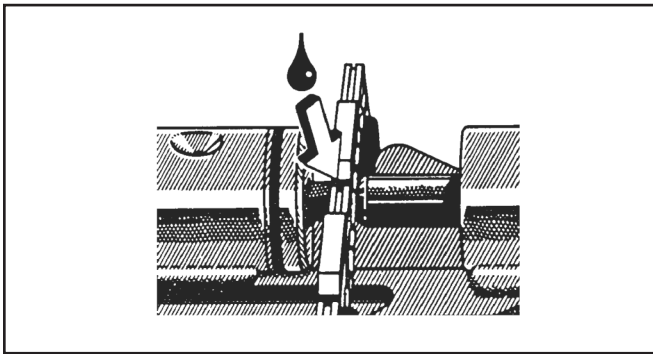

Figure 20. Applying the Oil
5. Apply a few drops of oil to the rivet hub (Figure 20).